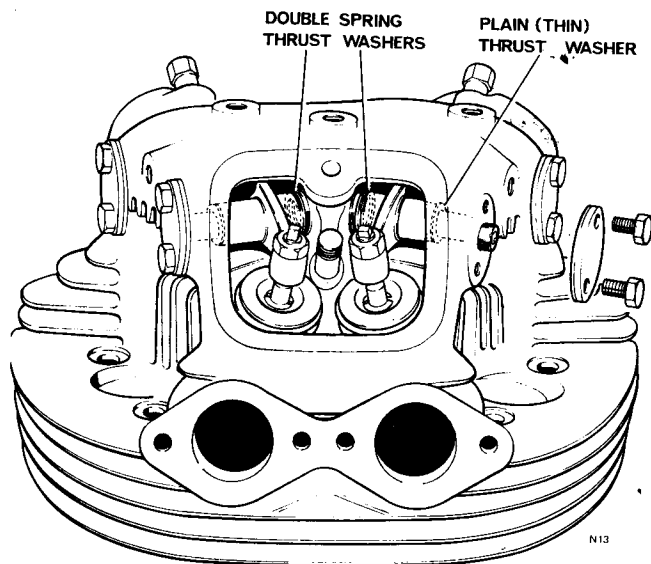

Fig. C4 Rocker thrust washers and securing plates.
- 1 Remove the two set screws retaining each rocker spindle cover plate (see Fig. C4).
- 4 Lift out the rockers and collect the plain and double spring thrust washers. On each rocker the plain thrust washer is outboard of the rocker and the double spring washer inboard (see Fig. C4).